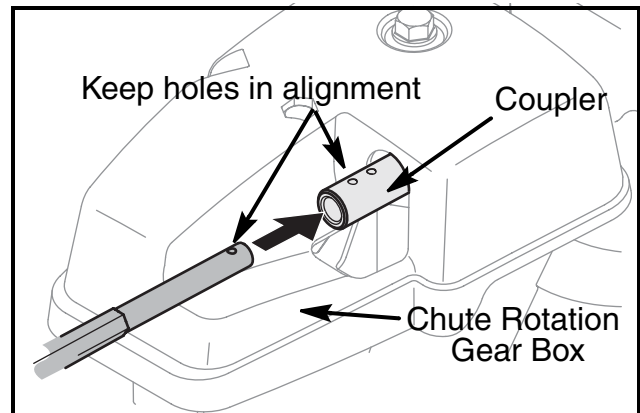

FIGURE 16
28. Insert hex rod into chute rotation gear box coupler. Push hex rod as far into the chute rotation gear box coupler as possible, keeping the hole in the hex rod pointing upward. See Figure 16.